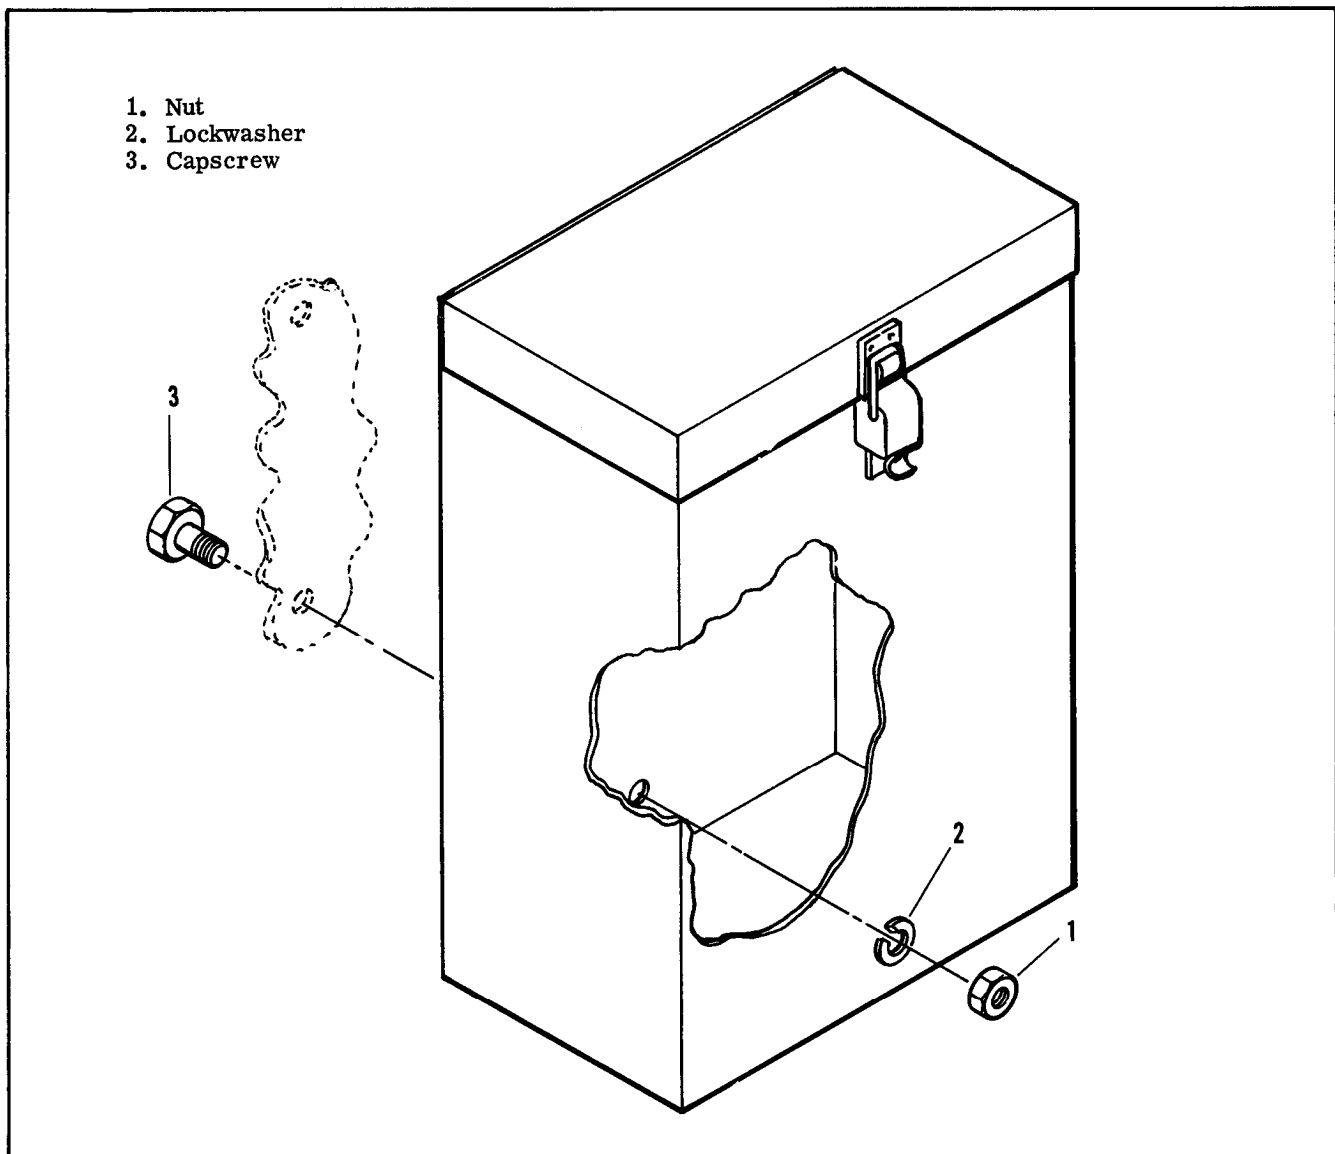

Figure 3-48. Tool Stowage Box
(1) Remove the hex nuts (1, figure 3-48), lockwashers (2) and capscrews (3) to remove the tool box.